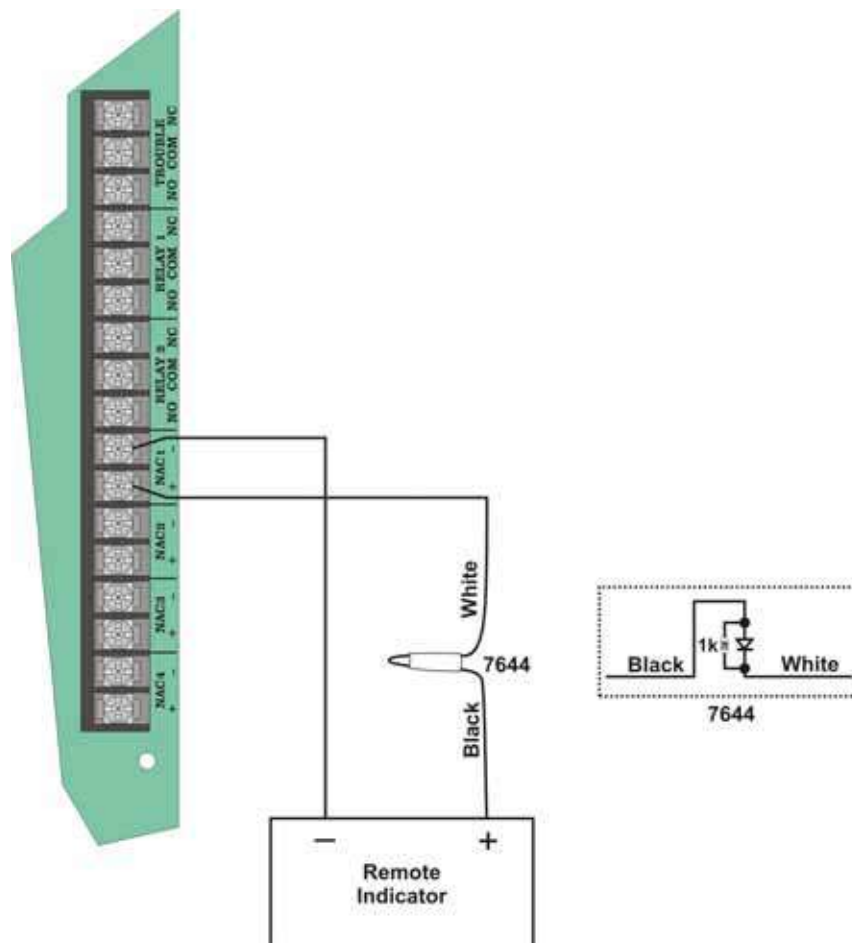

Figure 4-40 Polarity Reversal Connection Using the 7644
1. Wire the 7644 to the control panel as shown in Figure 4-40. Do not install an EOL resistor on the terminals of the NAC circuit used.